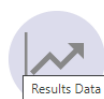

Figure 3-11. Plots Page Icon
5. Click the *Plots* icon shown in Figure 3-11 (also available on the left-side menu) to view and save graphical data from the results registers. This screen shows the x-axis, y-axis, z-axis, angle, magnitude and temperature plots that are derived from the corresponding TMAG3001 result registers. These plots have been converted to real world units of mT and degrees. Click the *SAVE PLOT* button on the corresponding plot to save any specific plot.